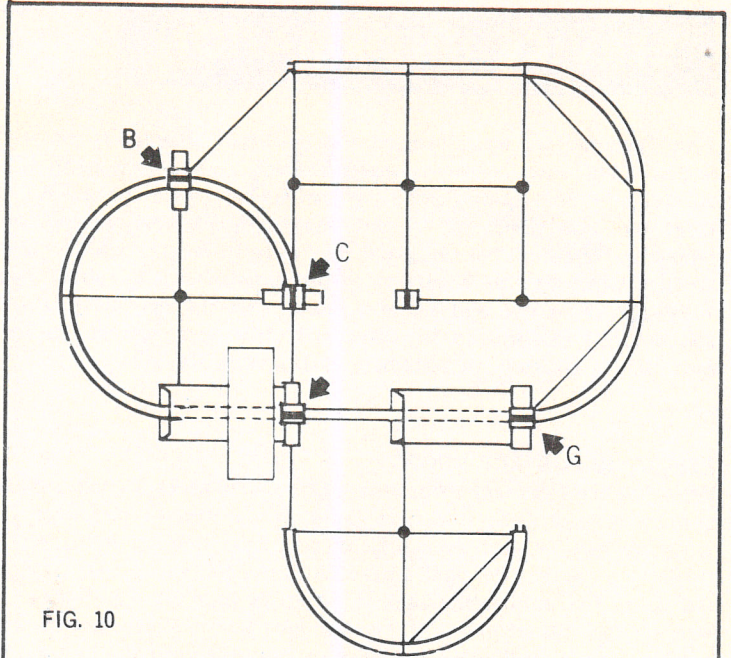

FIG. 10
□ **STEP 14.** Fit the tunnel clamp tops over the bottom mounted on stanchions "B" and "C" (Fig. 10) and snap them in place. Next, fit the tunnel top over the tunnel bottom.
□ **STEP 15** Assemble the two halves of the tri-level assembly by twisting them together. (See Figs. 11A and 11B) Snap a tunnel clamp top into the tri-level assembly. Then mount the entire assembly over the tunnel top at stanchion "G". (Fig. 10) Now fit the four stanchion stubs into tunnel top clamps. Make sure the slots line up as shown in Fig. 10.